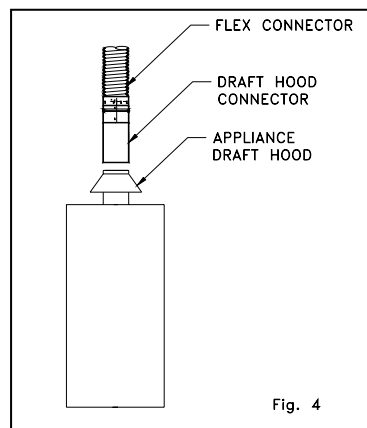

Fig. 4
5. Connect to the appliance. The connector may be directly connected to the appliance, but a draft hood connector is recommended. Screw the draft hood connector to the draft hood or collar and connect the flexible connector to the draft hood connector. (See Fig. 4.)